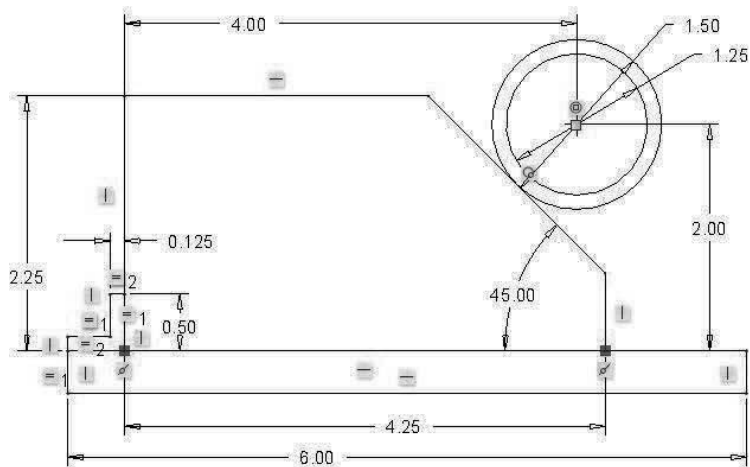

Figure 3-55 Sizing the Block
**Step 14:** The base dimension can be any value; however, a value near 4.25 inches looks reasonable. See Figure 3-55. To change a dimension, *double-click* LMB on it, then type in the new value followed by the <Enter> key. Will a base size of 4.5, 4.0, or 3.25 work?